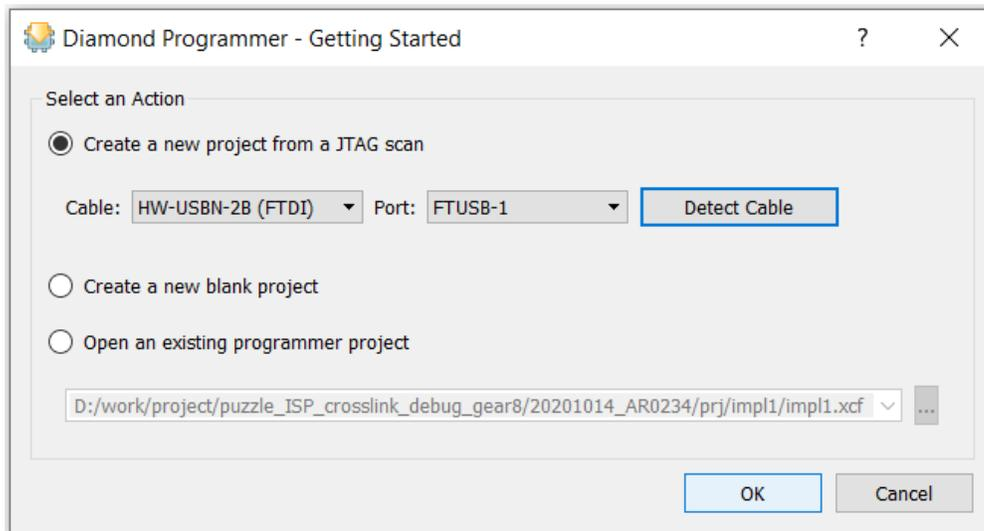

Figure 5.4 Getting Started dialog in Lattice Diamond Programmer
- Start Diamond Programmer, Version 3.10 or a later version. By default, the *Create a new project from a JTAG scan* option is selected. Check and confirm other settings are correctly reflected the real components connected (Figure 5.4). Click OK, if everything is correct.